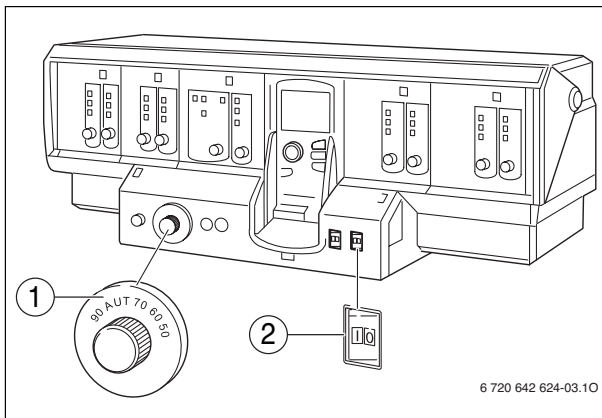

Fig. 4 Control panel (for example: Logamatic 4000)
Start your boiler via the control panel (→ Fig. 4). By starting the control panel, you also automatically enable the burner. The burner is then fired by the control panel. For further details, see the operating instructions of the relevant control panel or burner.
- ▶ Switch the boiler water thermostat (→ Fig. 4, [1]) to "AUT."
- ▶ Set the ON/OFF switch (→ Fig. 4, [2]) to "I" (ON).
Shut down your boiler via the control panel (→ Fig. 4). The burner is automatically shut down when the control panel is switched off.
- ▶ Set the ON/OFF switch (→ Fig. 4, [2]) to "0" (OFF).